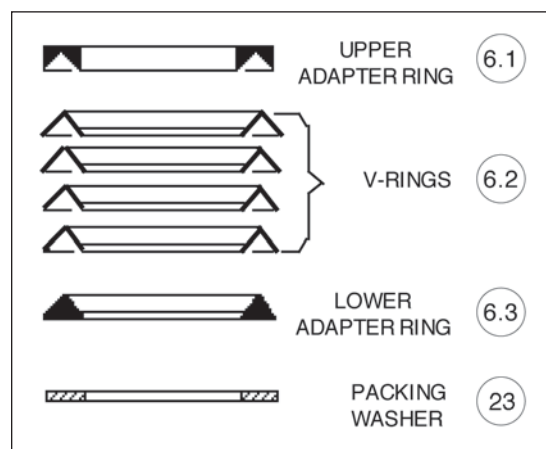

Figure 4: Packing Orientation
10. Remove packing flange nuts (15) with CCW rotation.
11. Partially withdraw stem/plug assembly (3). Remove position indicator disc (20), both jam nuts (18), packing flange (4), packing follower (5), and accessory plate ((AP)), if installed.
12. Fully withdraw stem/plug assembly (3).
13. Using a sharp, hooked-end, pick-type tool, hook and pull the packing rings (6) up and out of the bonnet’s (2) stuffing box individually. Examine for proper orientation (see Figure 4). Discard old packing (6).
25. See Figure 4 for proper packing orientation.
- a. Carefully place lower adapter (6.3) of packing ring set (6) over stem's (3) end, properly oriented. Using the packing follower (5), push the lower adapter into the bonnet's (2) stuffing box.
- b. Carefully place a packing ring (6.2) properly oriented over the stem's (3) end and push into the stuffing box similar to the adapter (6.3). Repeat to each of the four rings (6.2).
- c. Carefully place upper adapter (6.1) over the stem's (3) end.
26. Slide packing follower (5) with new follower bushing (25) over end of stem.
27. Place packing flange (4) over end of stem (3) and over packing studs (14).
28. Slide position indicator disc (20) and accessory plate ((AP)), in installed, over end of stem (3).
29. Engage valve stem (3) into actuator stem (19) the same number of revolutions recorded in Step 9.
30. Tighten both jam nuts (18) up against position indicator plate (20).
31. Tighten packing nuts (15) evenly in ½ revolution increments, until the packing flange (4) is resting evenly on the upper edge of the bonnet (2) at the stuffing box. Snug both nuts (15) tightly.
32. Raise actuator assembly (AA). **(Note RP.)** Lower into body (1) over bonnet studs/bolts (16). Align with match marks.